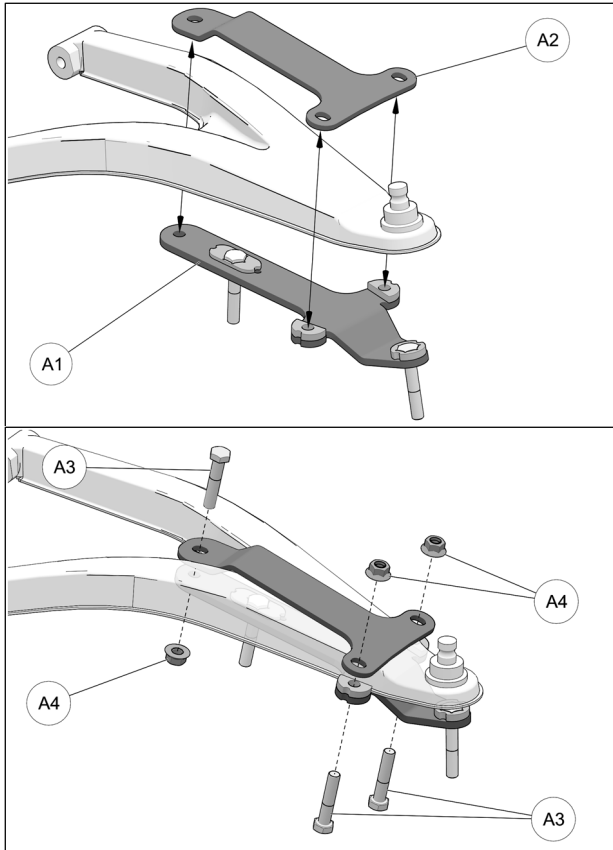

Fig. 17
- Position bottom part of anchor bracket (A1) assembly under front lower suspension arm, as shown in the figure below. Position bracket cover (A2) over suspension arm and align holes in cover and bottom part. Insert the front M10x50mm bolts (A3) from the bottom and the rear M10x50mm bolt (A3) through the top. Secure the two parts together with the nuts (A4) provided. Tighten assembly to 50 N•m [37 lb•ft] of torque. Refer to Fig. 17